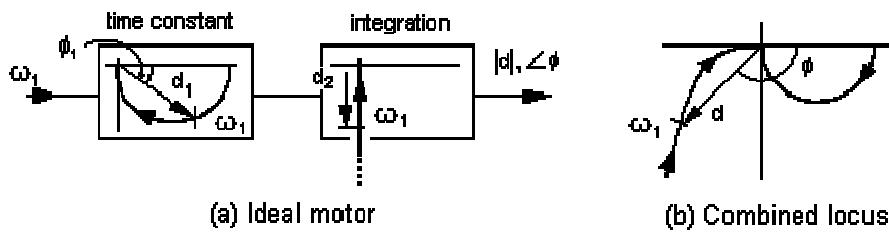

Figure 22-10: Frequency Response of Ideal Motor
From the frequency response point of view an ideal motor can be represented by two blocks with response loci as in Figure 22-10 (a).
The combined locus is shown in Figure 22-10 (b) and for low frequencies has a large magnitude with 90° lag and for high frequencies has a decreasing magnitude with a lag approaching 180° .
The combined locus of Figure 22-10 (b) shows that the overall magnitude response "d" falls continuously with increasing frequency. However, when a feedback loop is closed round a system as in Figure 22-11 (a), which could represent a position control system, the closed-loop frequency response may be very different from the open-loop response depending on the gain.
If the input signal is sinusoidal then the signals throughout the system will be sinusoidal and the ideas developed previously can be applied. In particular the relation between error (E) and output (θ_o) will vary with frequency as in Figure 22-11 (b) above which corresponds with the combined locus of Figure 22-10 (b). The error signal is given by the relation: